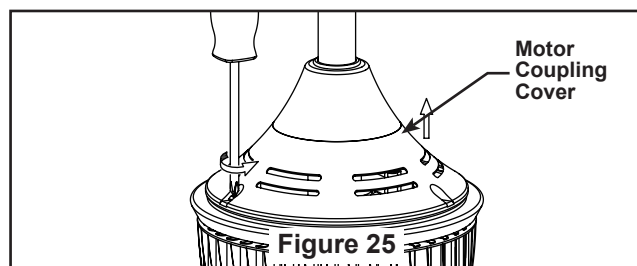

Figure 25
- ☐ 1. Remove motor coupling cover by unscrewing the two screws. (Figure 25)